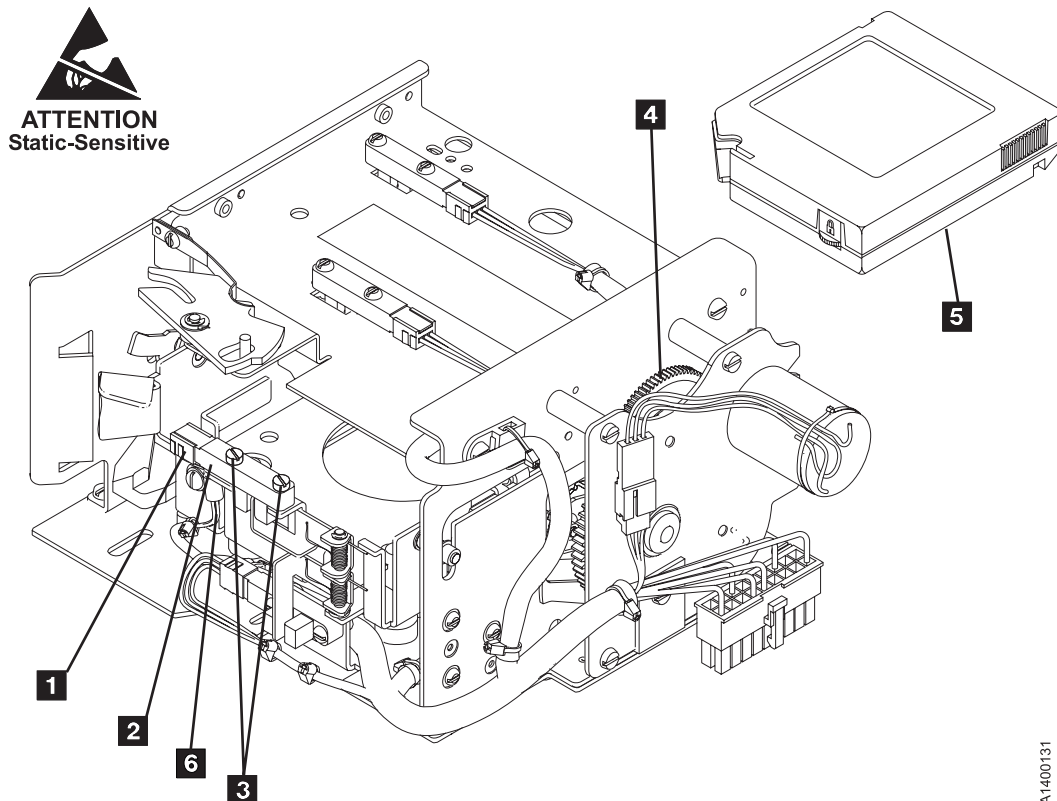

Figure 341. Cartridge-Present Sensor
4. See Figure 341. If the cartridge-present sensor **2** is not accessible, rotate the loader gear **4** to the front to expose the sensor.